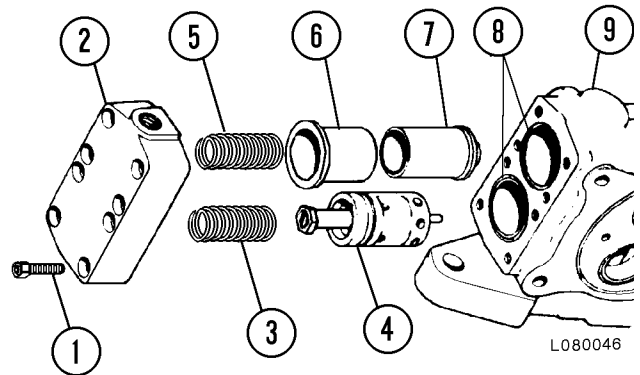

FIGURE 10-13. INLET SECTION
- c. Disconnect the tube from inlet cover (2, Figure 10-13). Disconnect the hose(s) at the top port.
- d. Remove capscrews (1) and cover (2). Remove spring (3) and relief valve (4).
- e. Install new relief valve (4), spring (3), cover (2), and new O-rings (8). Install and tighten capscrews (1). Connect the tube to the fitting on cover (2). Install the hose(s) at the top port.